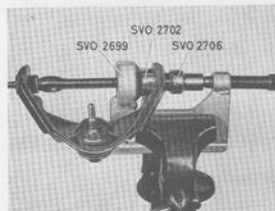

Fig. 6-36. Fitting second rubber bush, upper control arm
4. Fit the control arm shaft and press in the other bush with the sleeve 2702 + drift 2706, see Fig. 6-36. Make sure that the shaft fits the recess of the tool 2702.
5. Fit the washers (3) and the nuts (4). Tighten the nuts when the control arm is fitted.